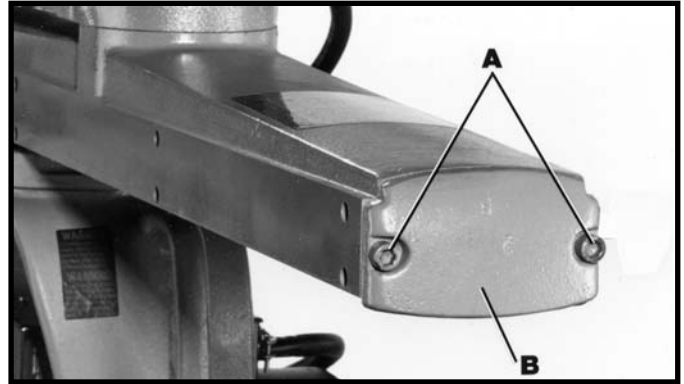

Fig. 11
4. Replace end cap (B) that was removed in **STEP 1**, as shown in Fig. 11.